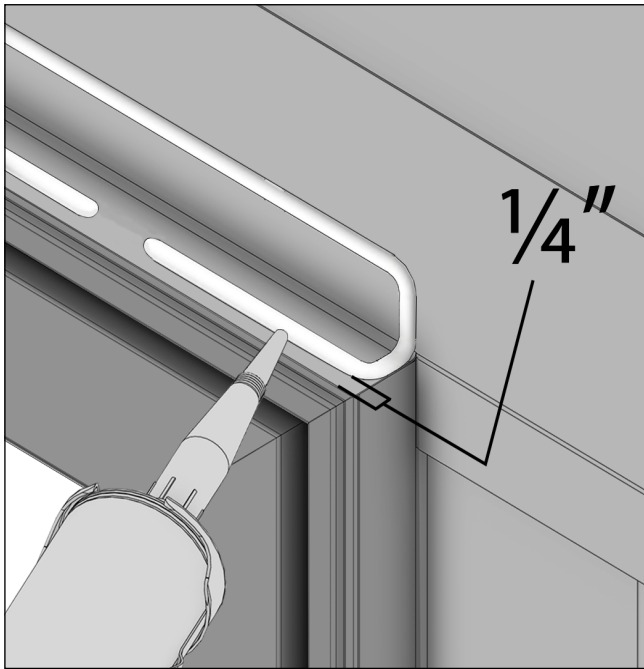
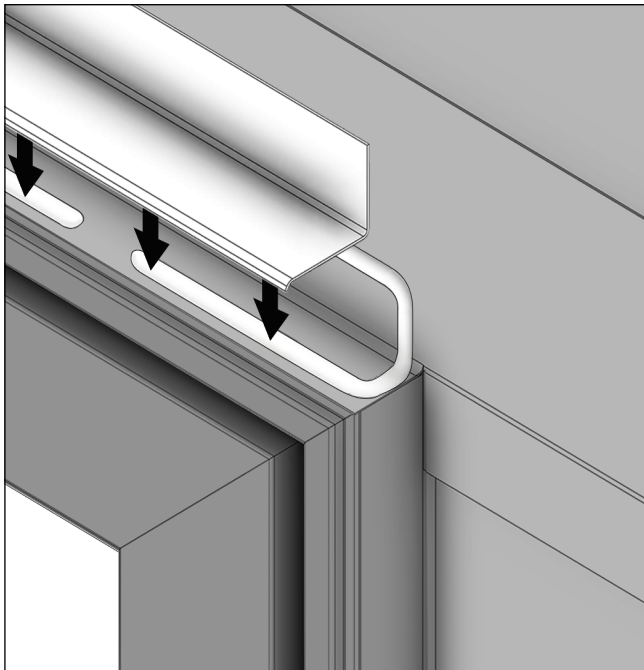

Figure 9
Figure 10
10. Install Rigid Head Jamb flashing. See Figure 9 and Figure 10